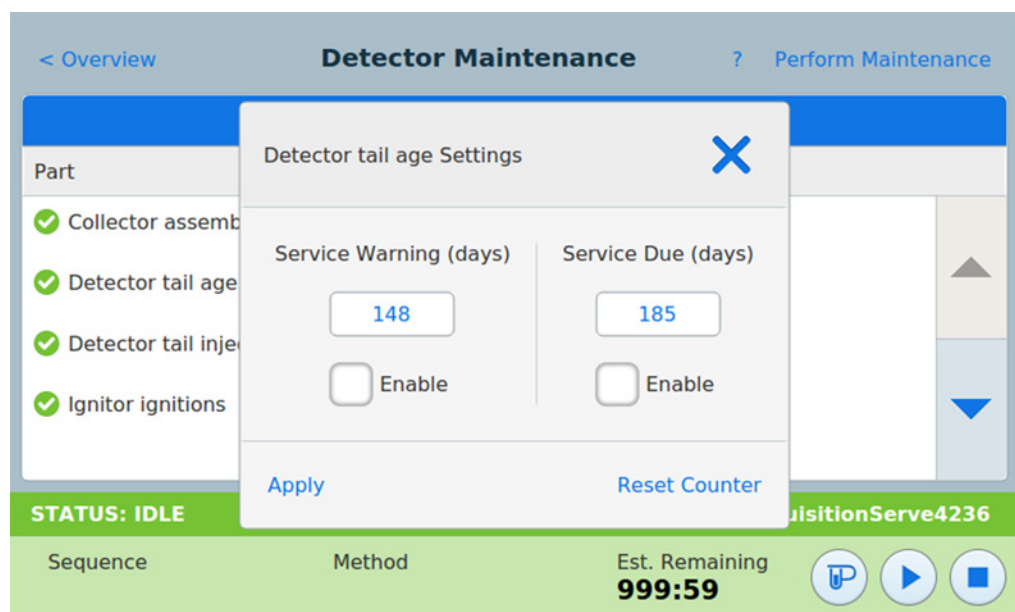

Figure 31 Settings dialog box
- 2 Press the Component listing for the counter you want to change. The Settings dialog box for the selected component appears. See Figure 31.